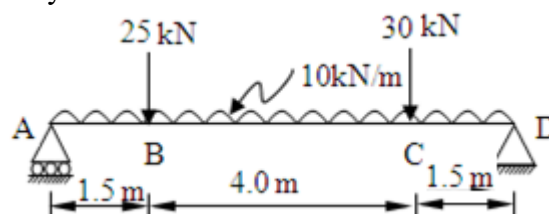

Fig.4
- (c) Find slope at point A and D & deflection at point B for the beam shown in Fig.4 by Macaulay's method. $E=200 \text{ GPa}$ and $I=14400 \times 10^4 \text{ mm}^4$. 07